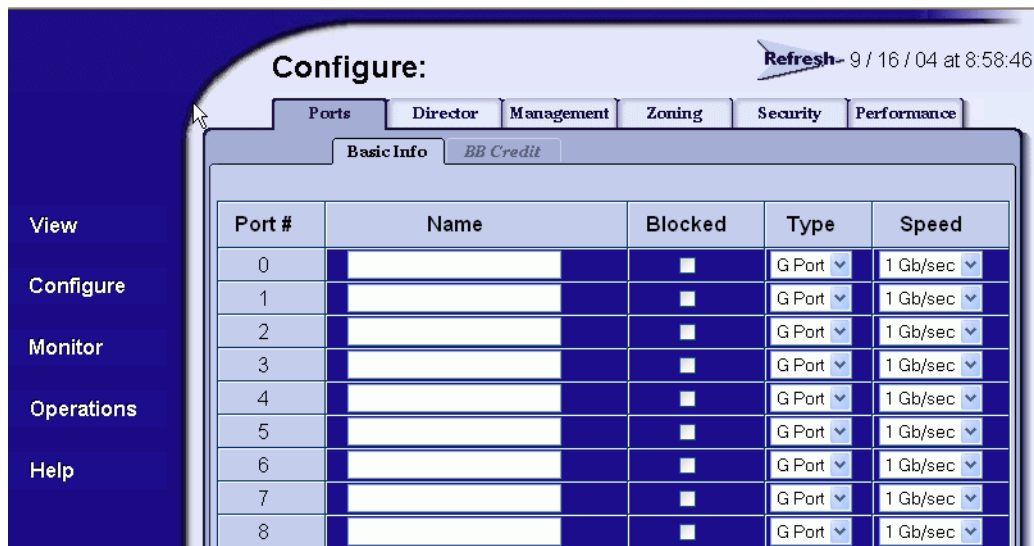

Figure 2-4 Configure Panel (Ports Page)
1. At the *View* panel, select the *Configure* option at the left side of the panel. The *Configure* panel opens with the *Ports* page displayed with *Basic Info* selected. (Figure 2-4 on page 2-9).
1. At the *View* panel, select the *Configure* option at the left side of the panel. The *Configure* panel opens with the *Ports* page displayed (Figure 2-4). Select the *BB Credits* tab is selected. Use the vertical scroll bar to display additional port information rows.